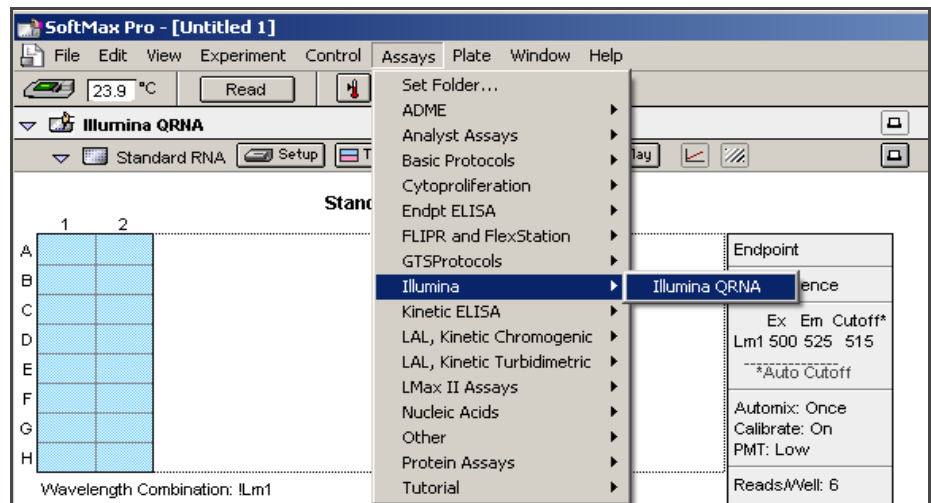

Figure 14 Load the Illumina QRNA Protocol in SoftMax Pro
3. Select **Assays | Illumina | Illumina QRNA** (Figure 14).